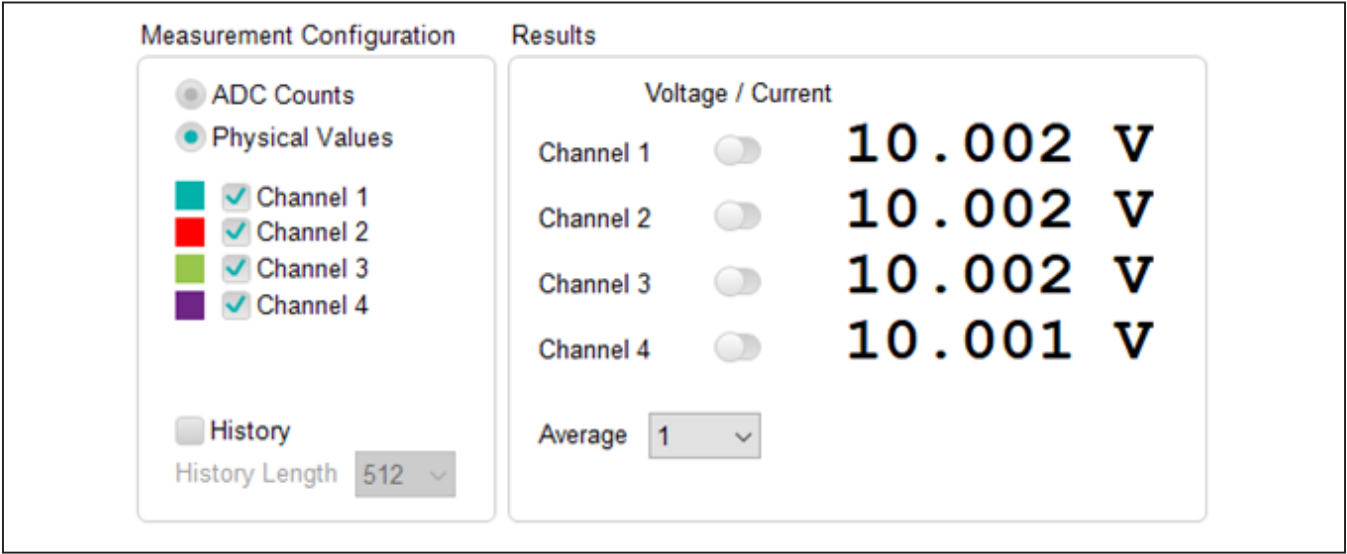

Figure 5. Example Voltage Measurement Settings and Expected Results
- 11) Voltages can be measured on the four input channels independently. This example measures all four at once with the same voltage. Select all four Channels in **Measurement Configuration** by checking each box. In the same section, select the **Physical Values** button. In the **Results** box on the right side, **Voltage** should be selected (the button switch is on the left side). See Figure 5.
- 14) Press **Sample Continuously**. You should see voltage values in the **Results** box close to what is in Figure 5. Press **Stop Sampling**.